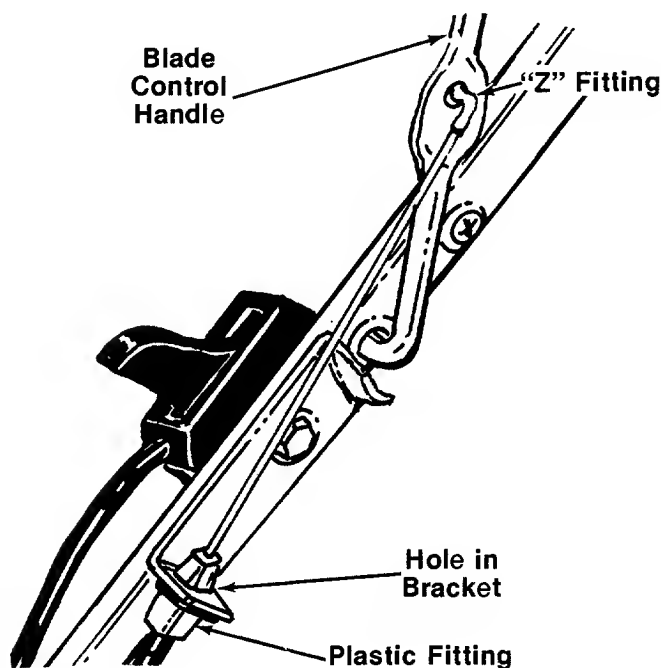

FIGURE 5.
4. Route the brake cable under the lower handle. Place the end of the brake cable into the hole in the bracket as shown in figure 5. Be careful not to bend or kink the cable. Snap the plastic fitting on the end of the cable into the hole in the bracket. Hook the "Z" end of the brake cable into the hole in the blade control handle. See figure 5.